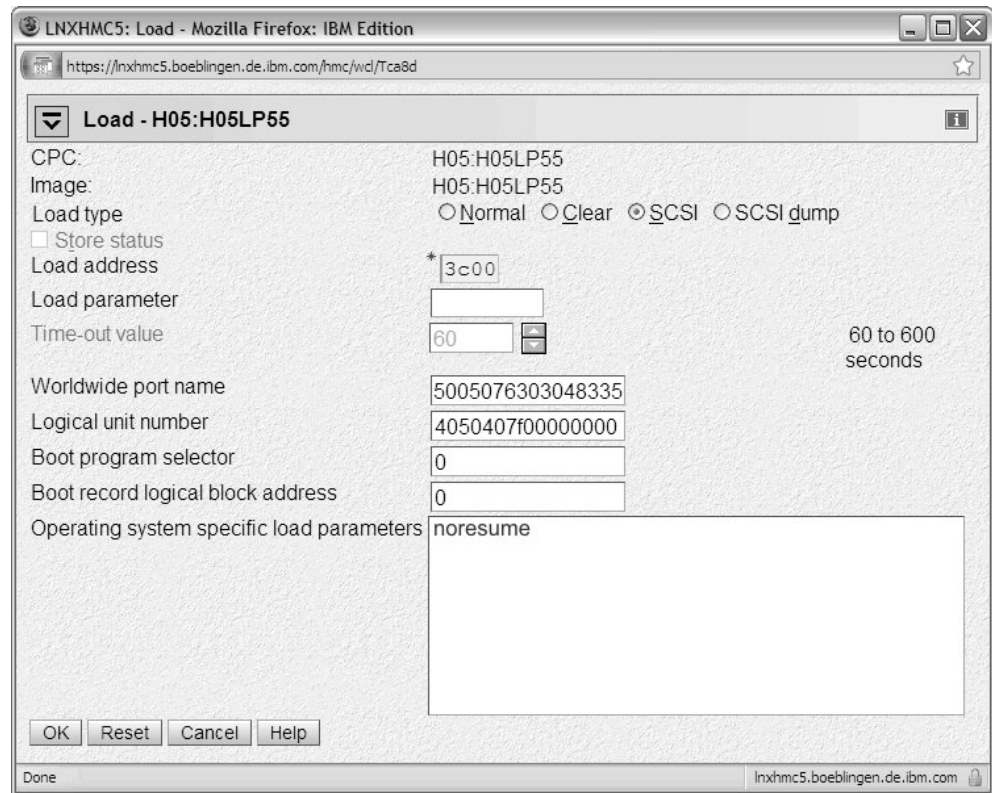
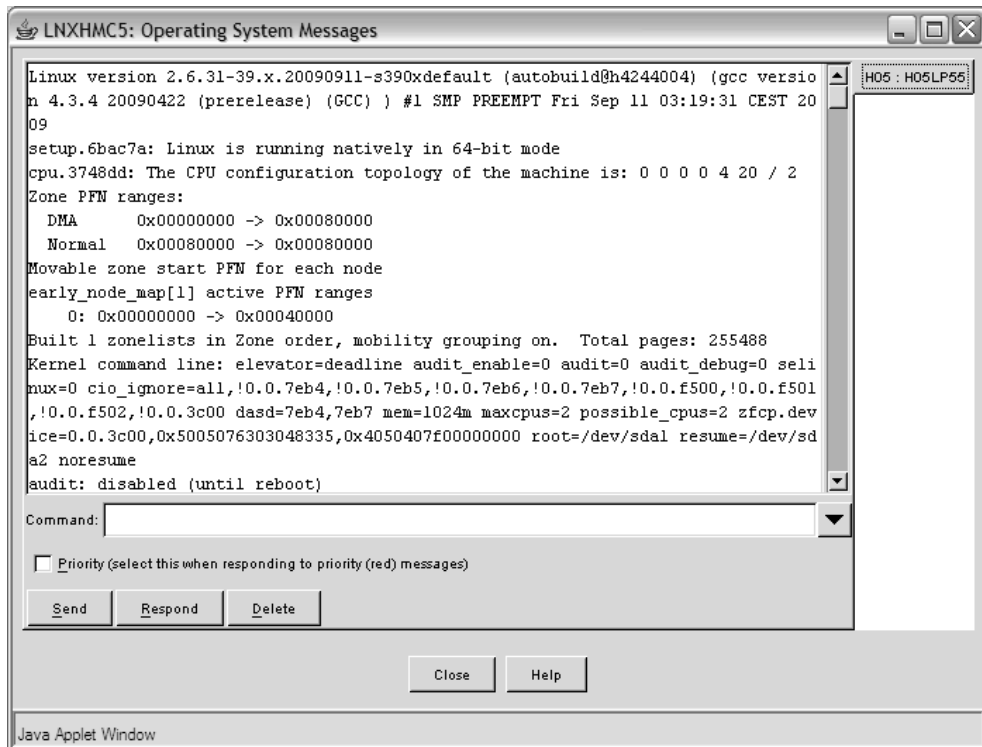

Figure 10. Load panel
Figure 11. Example of a SCSI IPL
The disk is now bootable and contains two boot configurations, selectable through the boot program selector parameter `bootprog` (see also Figure 10 on page 27). Note that the interactive boot menu is not shown when booting from SCSI.
1. Once the SCSI IPL feature is active, the SE or HMC display an enhanced load panel as shown in Figure 10 on page 27.
Figure 11 shows the boot messages.
In Figure 10 on page 27, noresume has been typed into the **Operating system specific load parameters** field. In Figure 11 this specification has been concatenated to the end of the existing boot parameters used by the boot configuration. This causes a regular boot process, even if the Linux instance had previously been suspended to a swap partition.